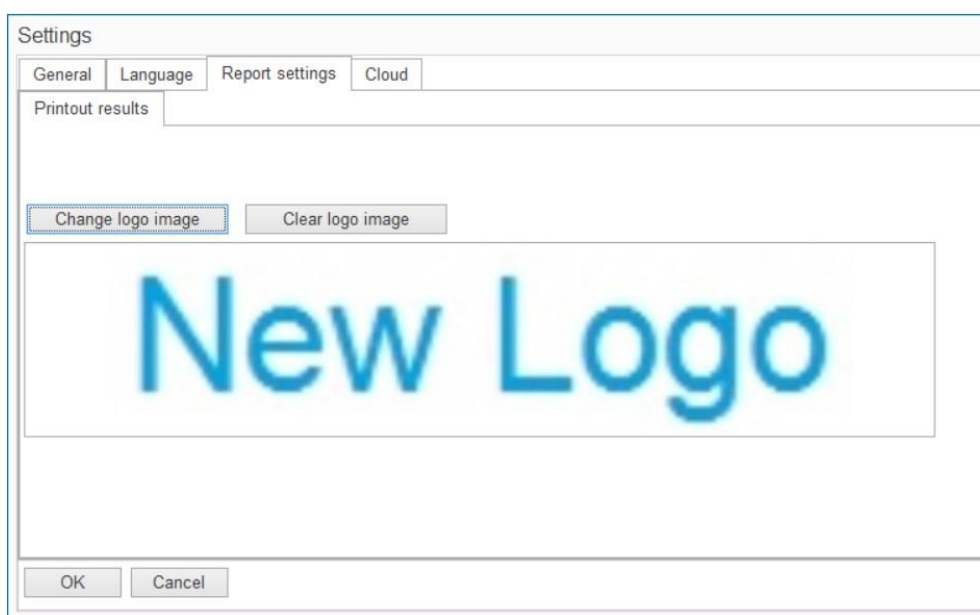

Figure 11.1: Print results Logo setup
- Printout results tab (**Figure 11.1**) header setup options are: